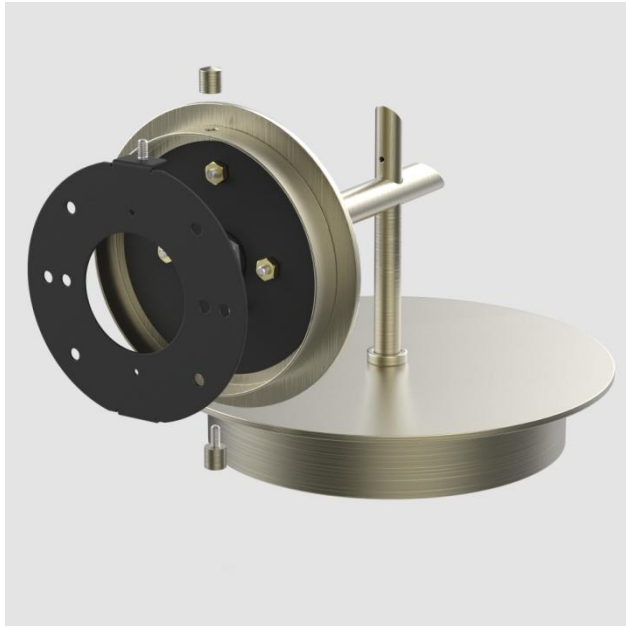

Figure 1
- Separate mounting disk from fixture assembly. (Figure 1)